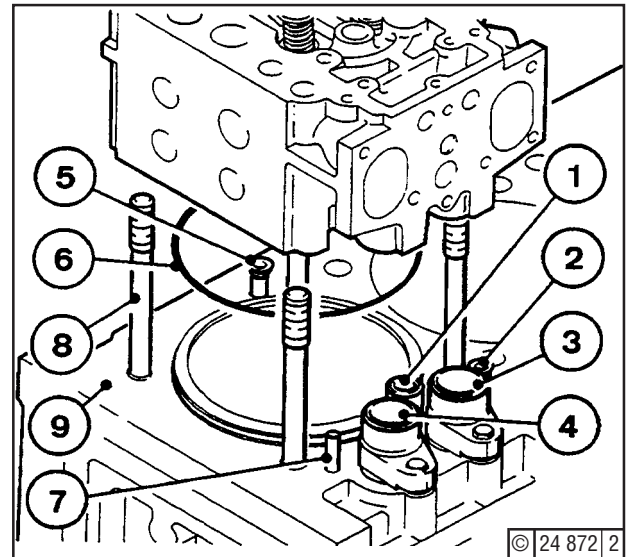

Fig. 1 Cylinder Head Refitment
Watch for corrosion in the area of annular gap between waisted stud shank (8) - Fig. 1 - and crankcase upper part (9). In case slight corrosion, remove and clean waisted stud. In case of more distinct corrosion marks, renew waisted studs, see under "Note"
- Replace O-seals (1) to (5) on the plug-in pieces (Fig. 1).
- Fit centering pin (7).
- Position cylinder head gasket (6) in place.